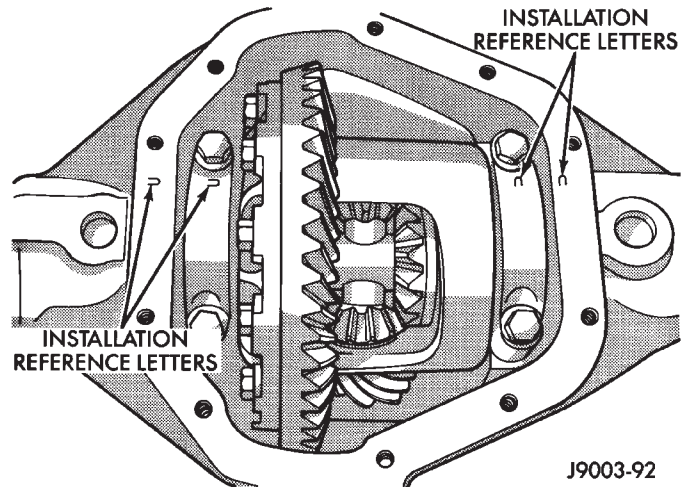

Fig. 31 Bearing Cap Identification
(1) Raise and support vehicle.
- (2) Remove the lubricant fill hole plug from the differential housing cover.
- (3) Remove the differential housing cover and allow fluid to drain.
- (4) Remove axle shafts.
- (5) Note the installation reference letters stamped on the bearing caps and housing machined sealing surface (Fig. 31).